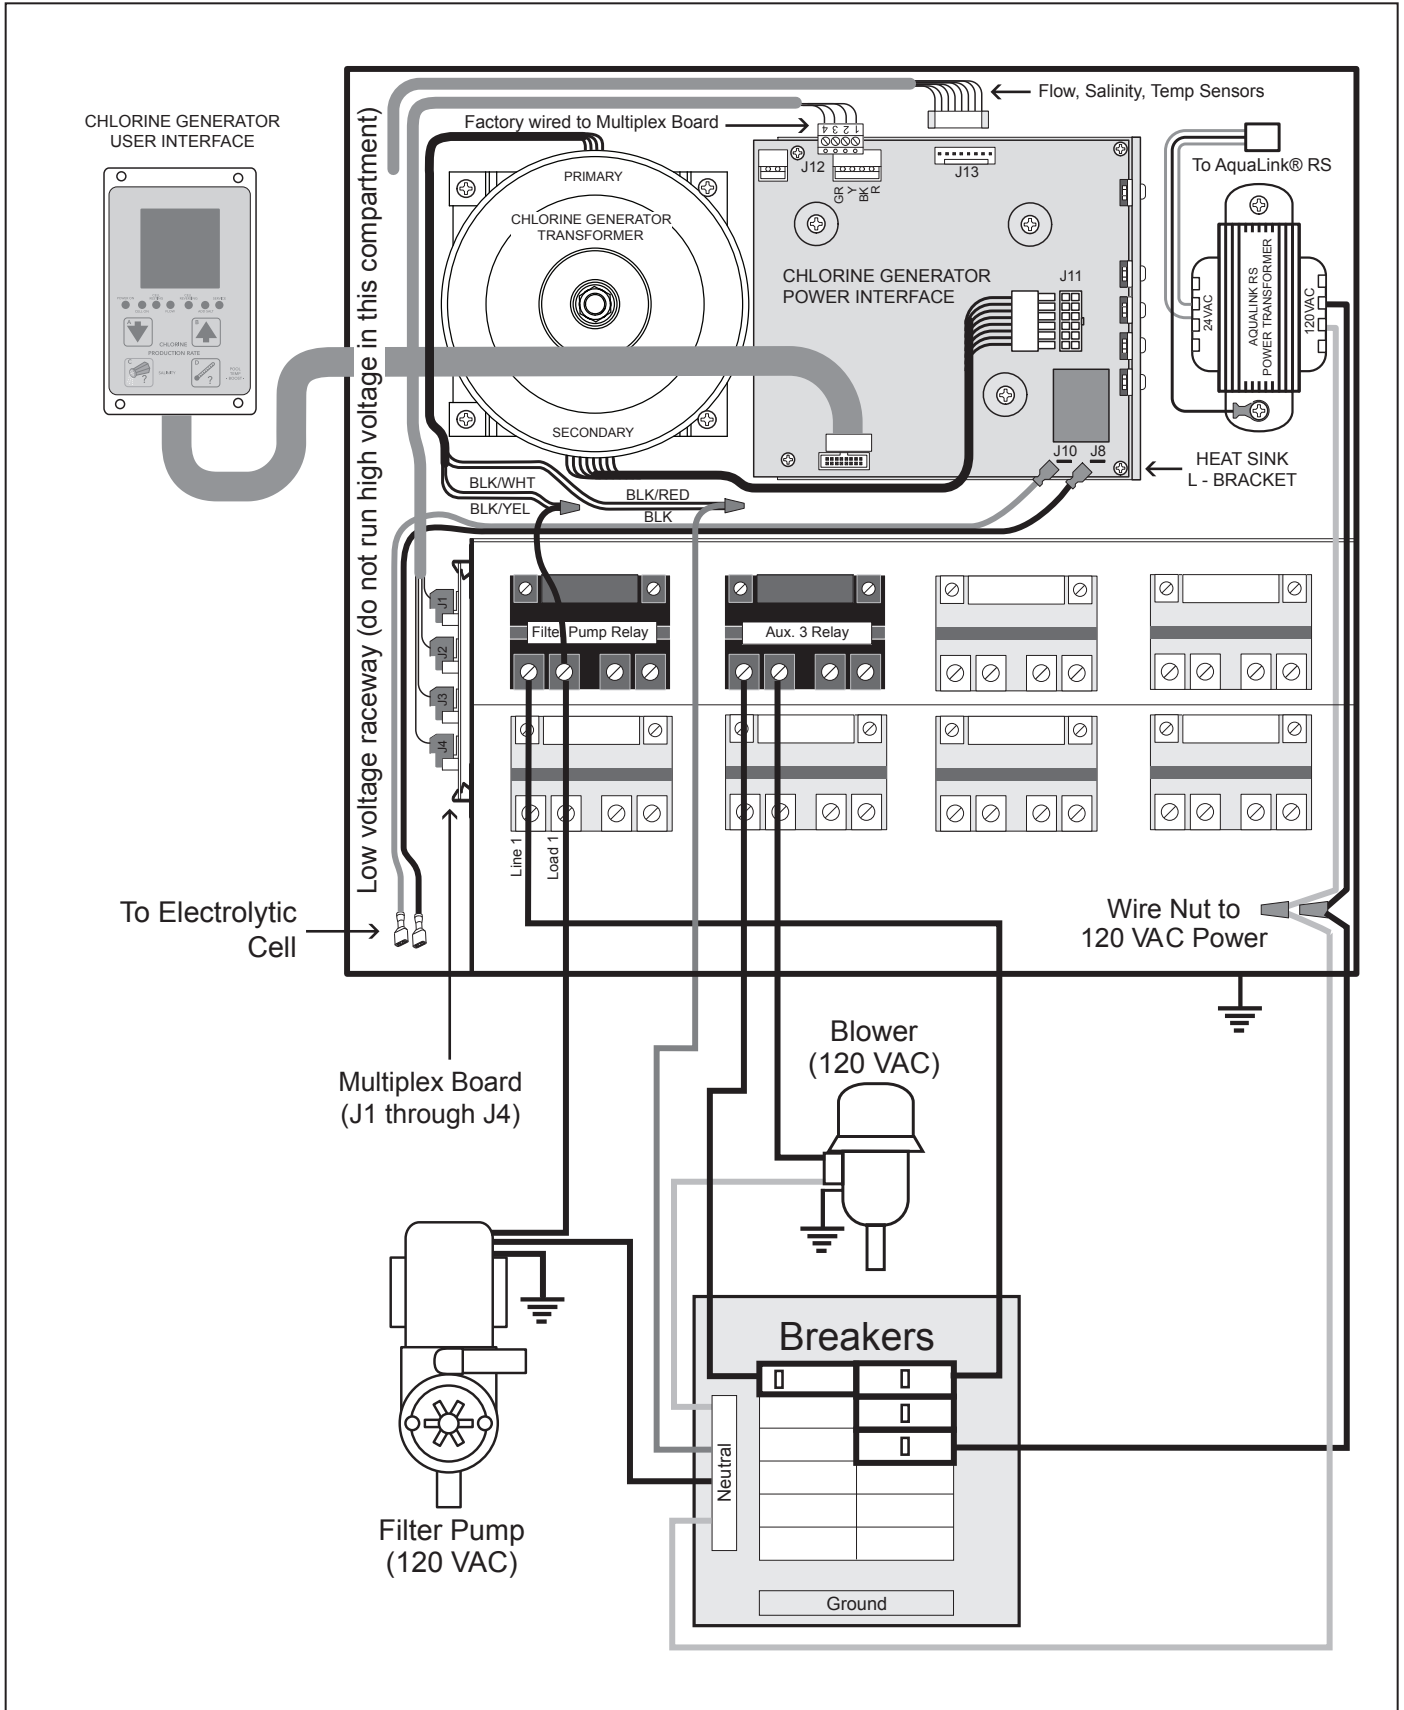

Figure 2b. 120 VAC Wiring Diagram for the AquaLink RS PureLink™ System
**The electronics for the salt water chlorinator are factory wired for 240 VAC service.** If the available electrical service is 120 VAC then the power supply wiring must be changed to operate on 120 VAC as shown in Figure 2b.
5. Hang the control/power center on the surface using the three (3) holes drilled in *Step 3*. With the control/power center in place, mark three (3) holes for the bottom bracket mounting.
**NOTE** As with the top brackets, the bottom bracket requires three (3) mounting holes. The three (3) mounting holes are four inches (4") apart center to center.
8. Check source voltage. (All units are factory wired for 240 VAC). ***In order to use on 120 VAC, the internal factory wiring of the power center must be changed. (See Figures 2b and 2c).***